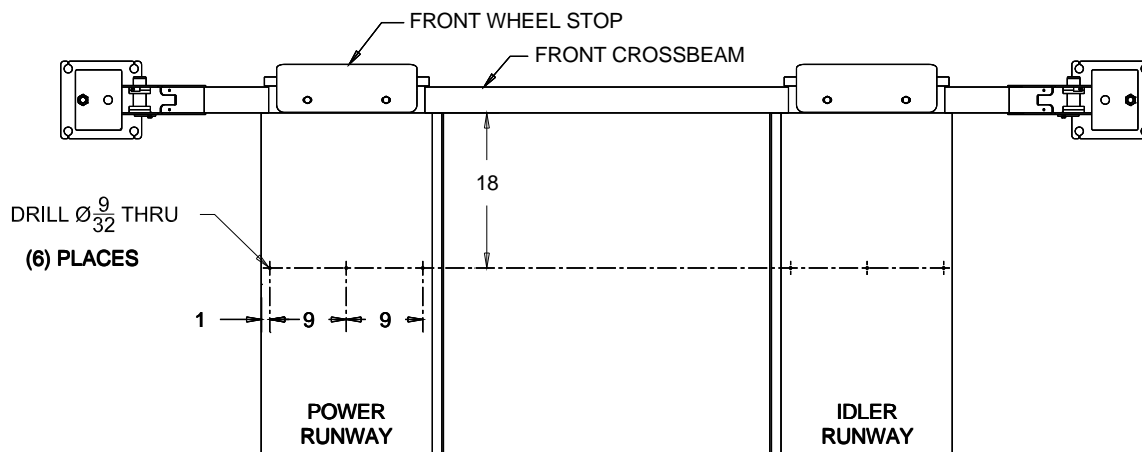

Fig 2 – Front Guide Bar Location
- Locate and drill three 7/32" holes in the Power Runway 18" back from the Front Cross Beam as indicated in Fig 2. Use the front Guide Bar as a template and use a 2' carpenter's square to ensure Guide Bar is square with runway.